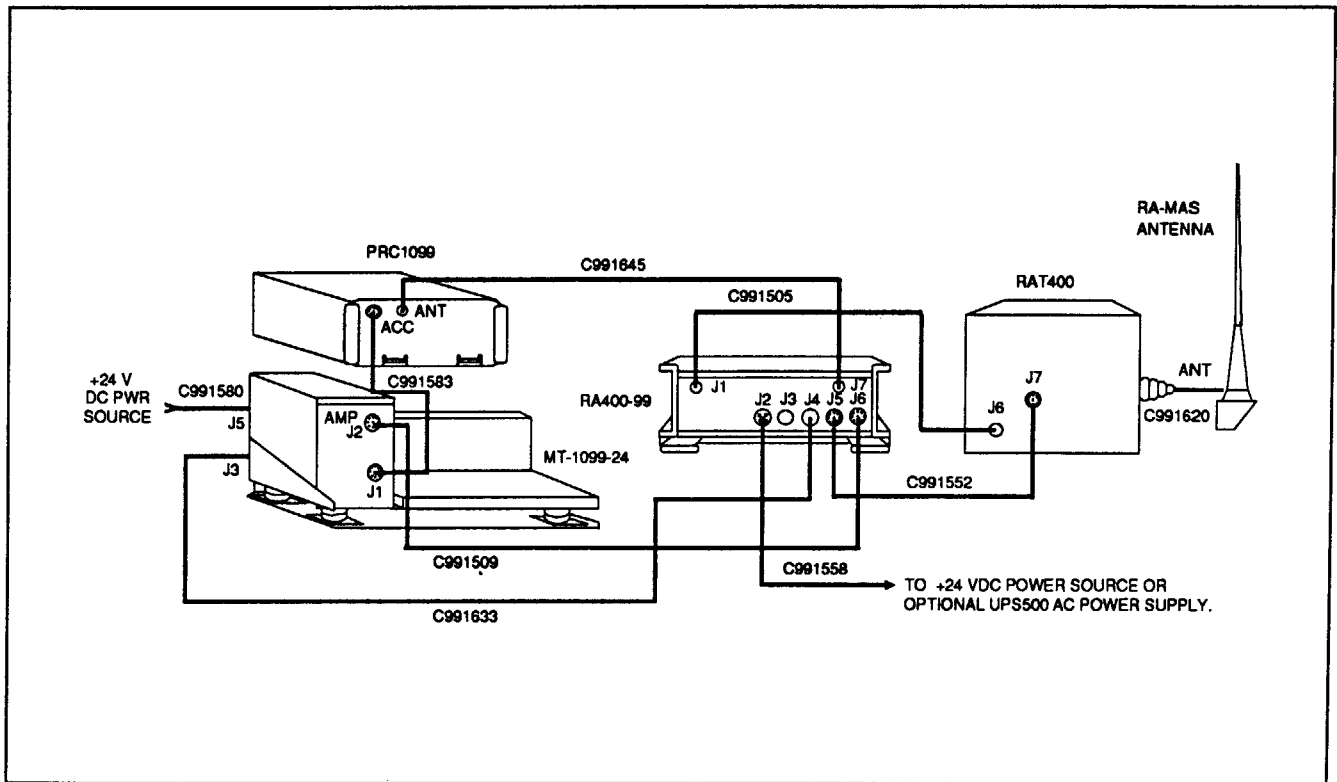

FIGURE B-10.
- a. The PRC1099 can be used in a mobile configuration with the RA400 power amplifier as shown in Figure B-10.
5. Hook up the correct cables as shown in Figure B-10.
Referring to Figure B-10, cable C991580 going between the vehicular power source and the MT-1099 must be replaced with cable C991614; this cable connects the MT-1099 to the UPS100.
Also in Figure B-10, cable C991558 going between the vehicle power source and the RA400 must be replaced with cable C991508; this cable connects the RA400 to the UPS500.